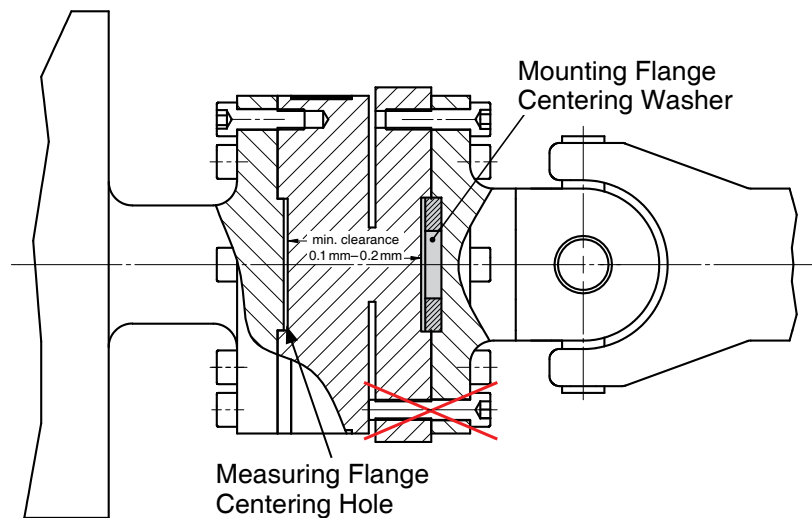

Figure 2-8 Mounted TF
- Check the lengths of the screws and be sure to avoid any contact between the screws and the opposite part of the measuring flange (see Figure 2-8 Mounted TF).